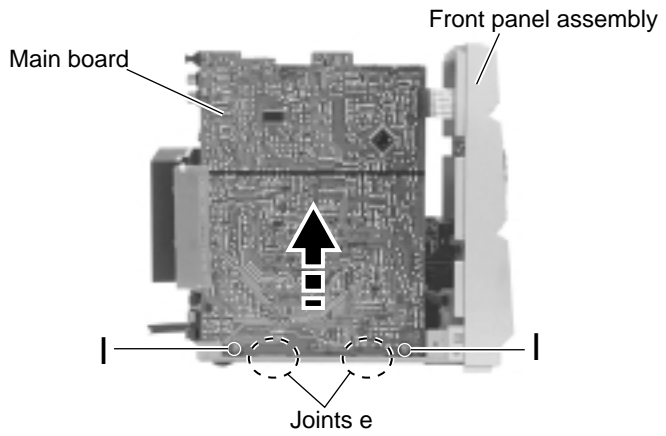

Fig.15
4. Move the boards and heat sink assembly upwards and disengage the joint **d** and the two joints **e** to release the power amplifier board and the main board from the chassis (Refer to Fig.15 and 16).